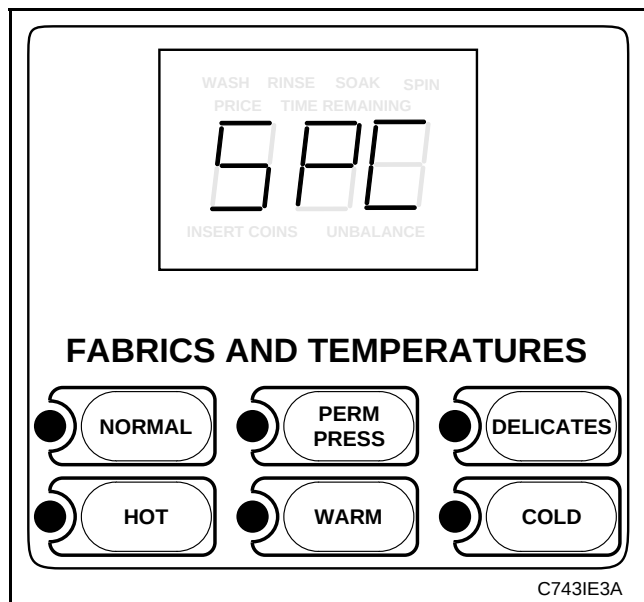

Figure 4
4. The VFD display will show "SPC." See **Figure 4**.